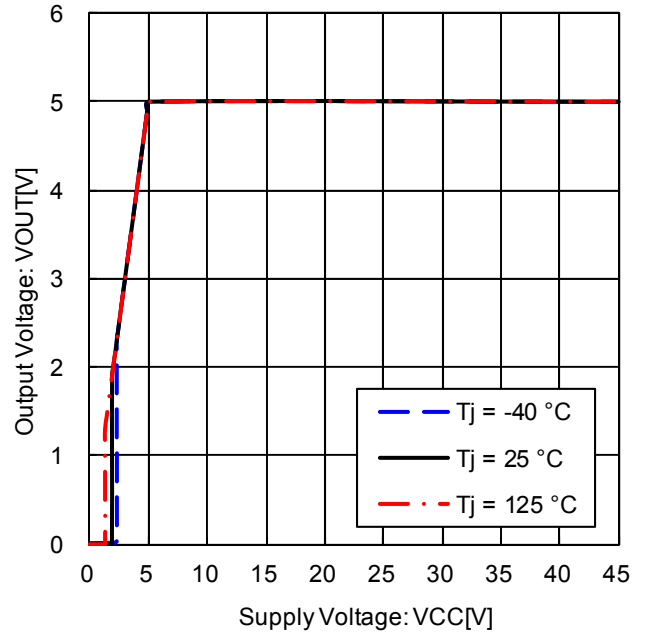

Figure 24. Output Voltage vs. Power Supply Voltage (IOUT = 0 mA)
*magnified Figure 24. at low supply voltage